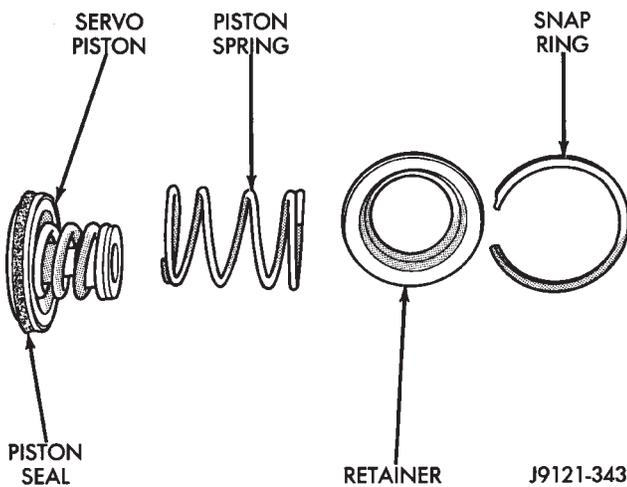

Fig. 131 Rear Servo Components
(1) Install rear servo piston, spring and retainer (Fig. 131). Install spring on top of servo piston and install retainer on top of spring.